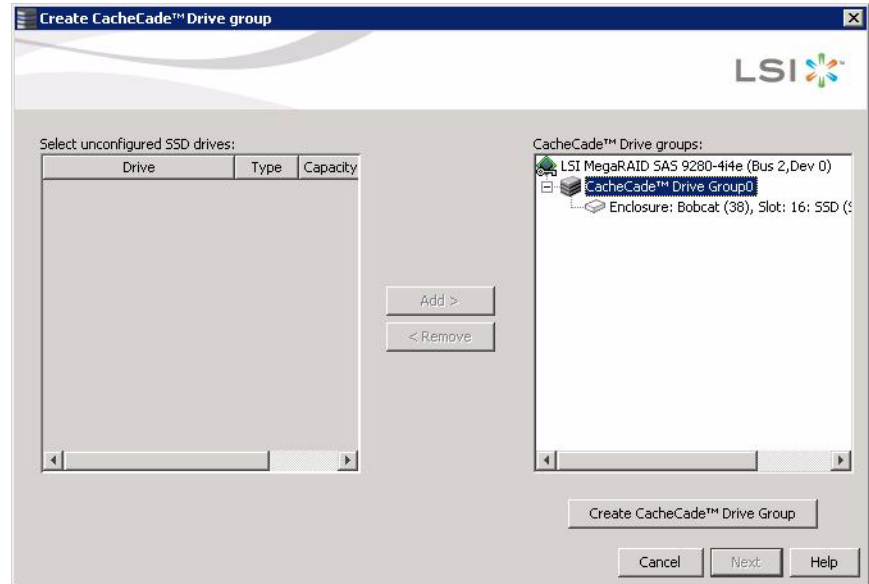

Figure 304: CacheCade Drive Group Dialog
- Click **Add >** to move the selected drives to the drive group in the right frame, as shown in Figure 304.